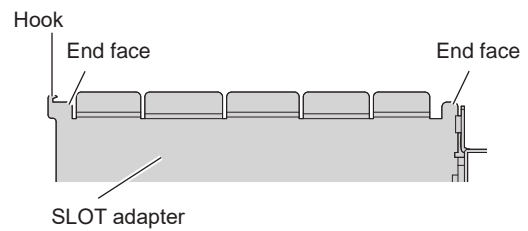

Fig. 2
2) Attach the Function Board to the SLOT adapter. (Fig. 2)